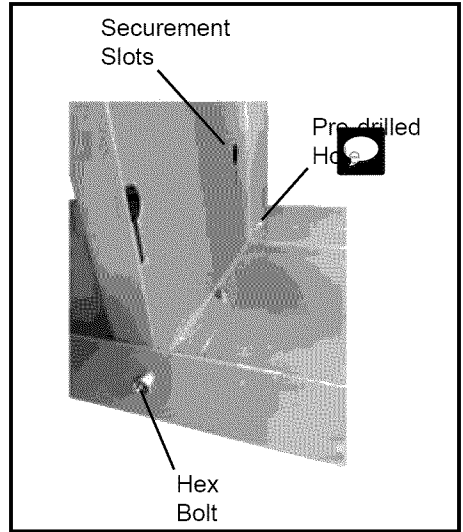

Fig 5.
10. Find the Vertical Cylinder Securement Panel. Position this panel so that the securement slots in the panel point down. Insert the down side edge into the bottom panel and align the pre-drilled holes in the side lips with pre-drilled holes in the lips of the bottom panel that are located just in front of the back wheels (Fig 5). Insert a hex bolt into the pre-drilled holes in the bottom panel and then through the pre-drilled holes in the Vertical Cylinder Securement Panel. Secure with a hex nut. Repeat for both sides and the bottom.